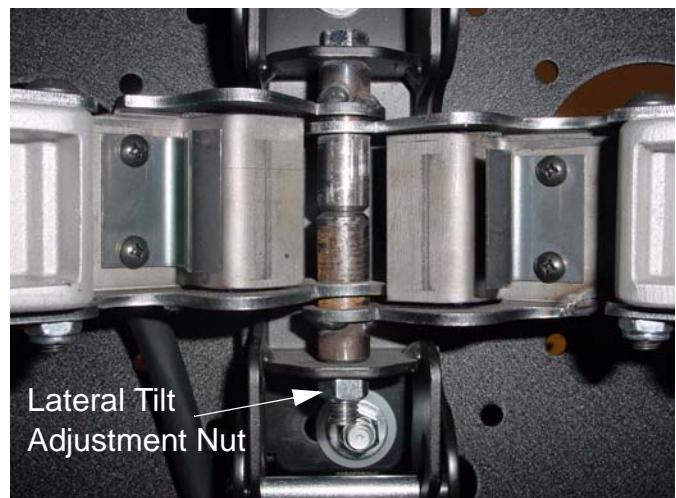

Figure 10. Lateral Tilt
1. Using a 9/16" wrench, slightly tighten or loosen lateral tilt tension adjustment nut (see Figure 10).